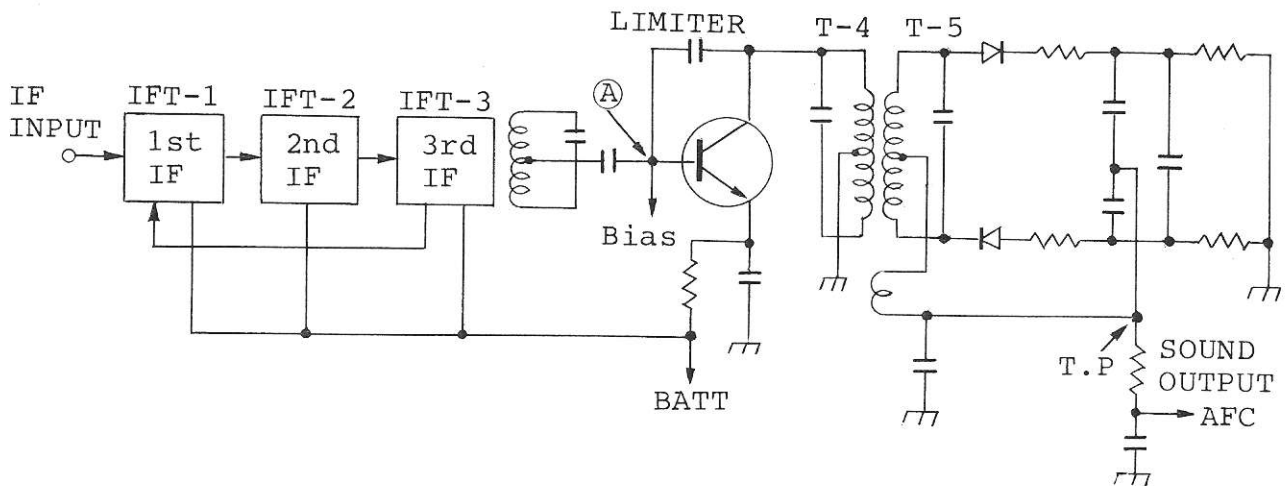

Fig. 4-5 FM IF circuit testing.
4. The test signal is picked up at the final limiter input, (A), in Fig. 4-5, for the FROM T.P. input.
Reference: Fig. 4-5